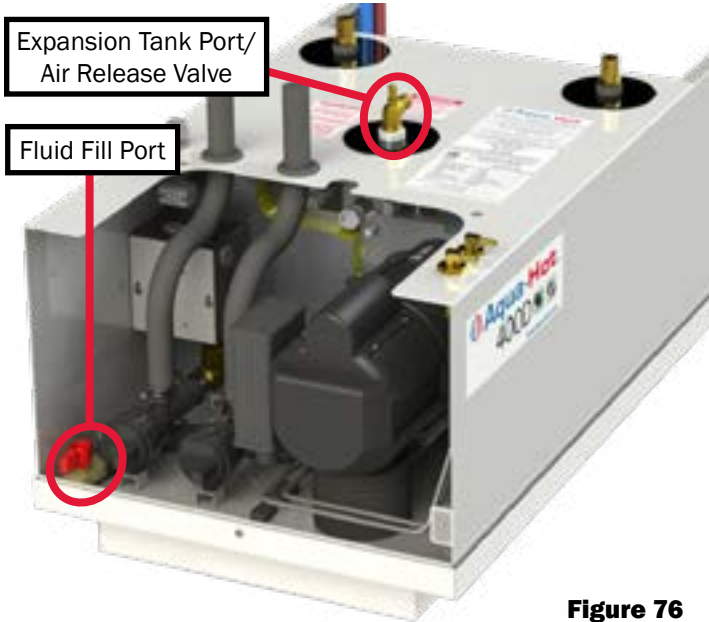

Figure 76
3. Open the Aqua-Hot’s drain valve located at the front of the heater. Reference Figure 76.